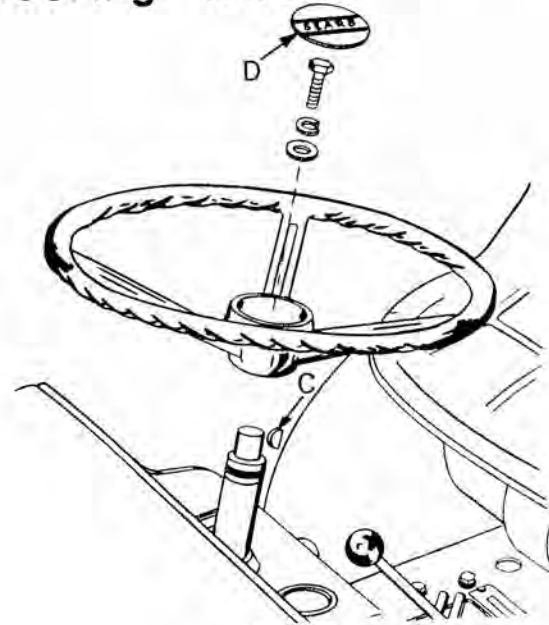

FIG. 2
1. Refer to Fig. 2. Insert woodruff key (C) in key way of steering shaft. Slide steering wheel down over steering shaft and woodruff key. Important: Be sure woodruff key is in place in steering shaft and steering wheel. Secure with flat washer, lockwasher and hex bolt. Tighten bolt securely. Press steering wheel cap (D) into position in center of steering wheel.